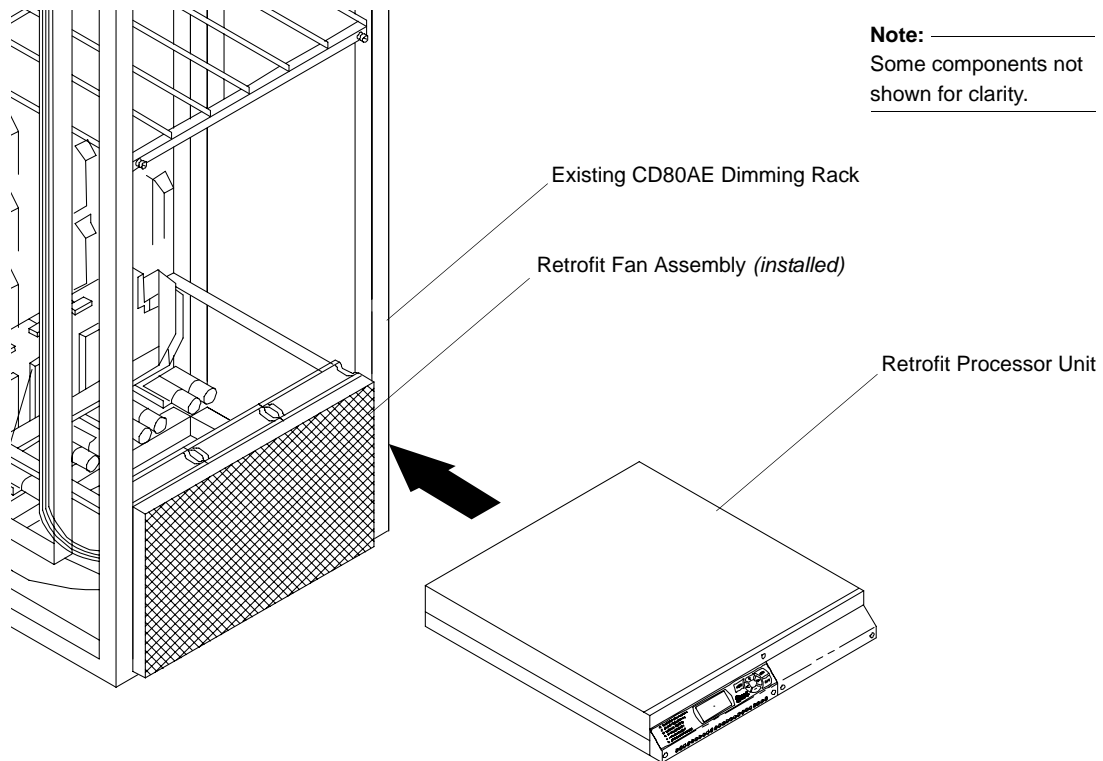

Figure 6: Retrofit Processor Install
- Step 9. After all connections are made, install retrofit kit processor directly above new fan assembly using original processor mounting guides as shown in **Figure 6**.